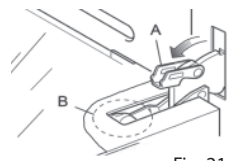

Fig. 21
- Completely open the A arm on the left and right hinges (Figure 21).